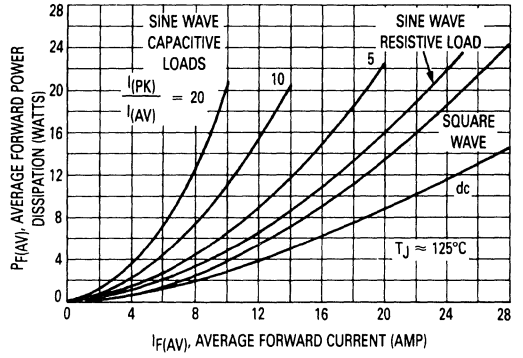

Figure 4. Forward Power Dissipation
Step 3: Find $P_{F(AV)}$ from Figure 4.** Read $P_{F(AV)} = 12.8$